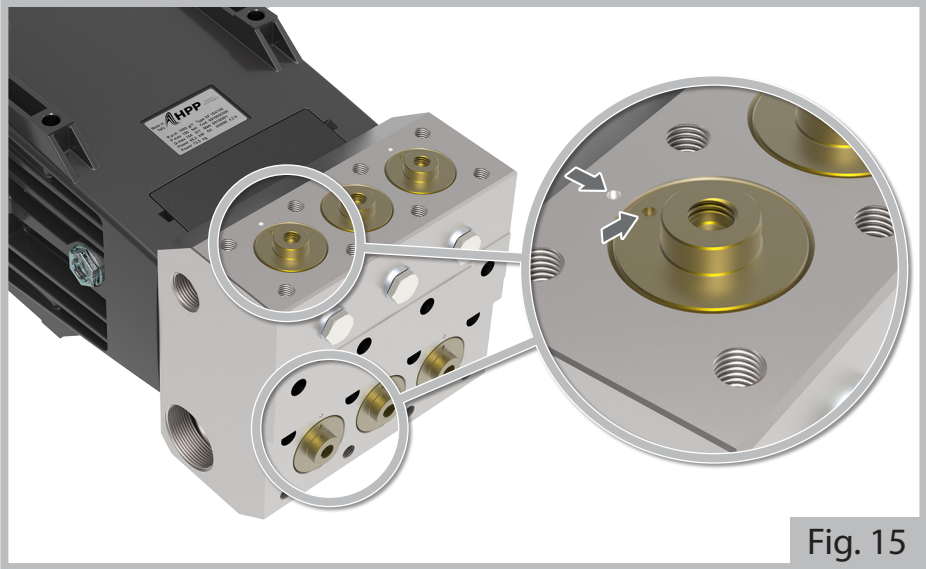

Fig. 15
For a correct assembly, the reference marks on the spacers (8) have to mate those on the head, as shown in Figure 15.